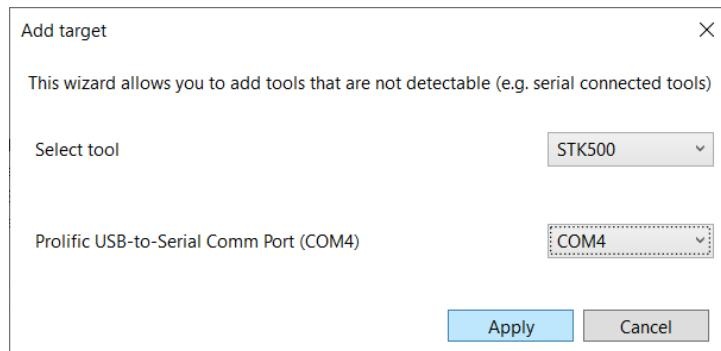
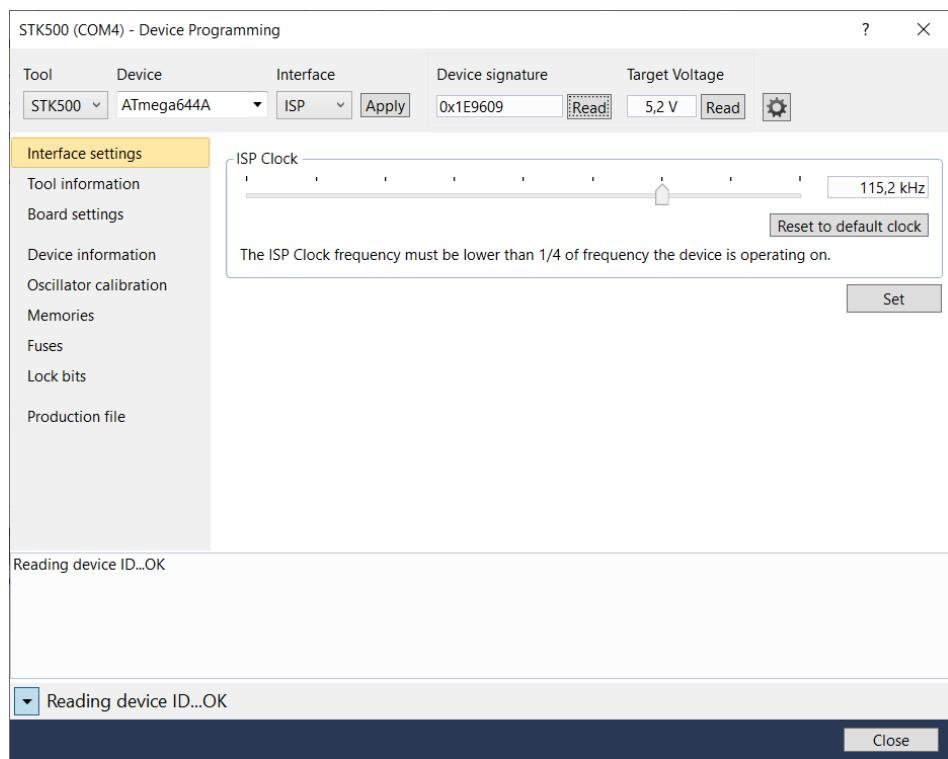

Figure 42: Adding the STK500 as a Target in Microchip Studio
Figure 43: Settings for STK500 in Microchip Studio
Start Microchip Studio and open the Blink project from Section 3.1.2. In the “Tools” menu, click “Add Target”. Select STK500 and specify the correct COM port, see Figure 42. Open the “Device Programming” dialog from the “Tools” menu. Select the STK500 entry in the Tool dropdown and make sure the ATmega644(A) is selected under “Device” and ISP under “Interface”. Click “Apply”, then have it read the device signature to check whether communication can be established. See Figure 43